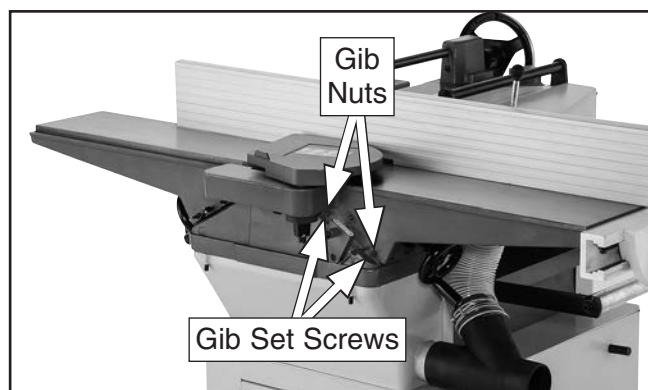

Figure 71. Infeed table gib controls.
1. Loosen two infeed table gib nuts on front of jointer base (see **Figure 71**).